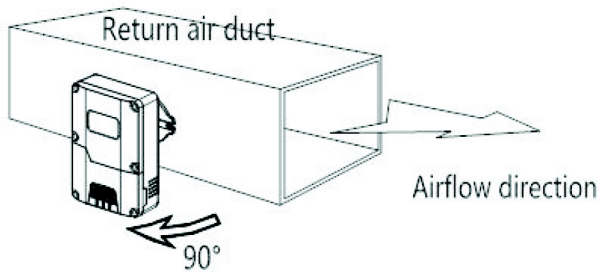

Fig. 19.
9. Then rotate it 90 degrees clockwise (Fig. 19). The installation is completed.